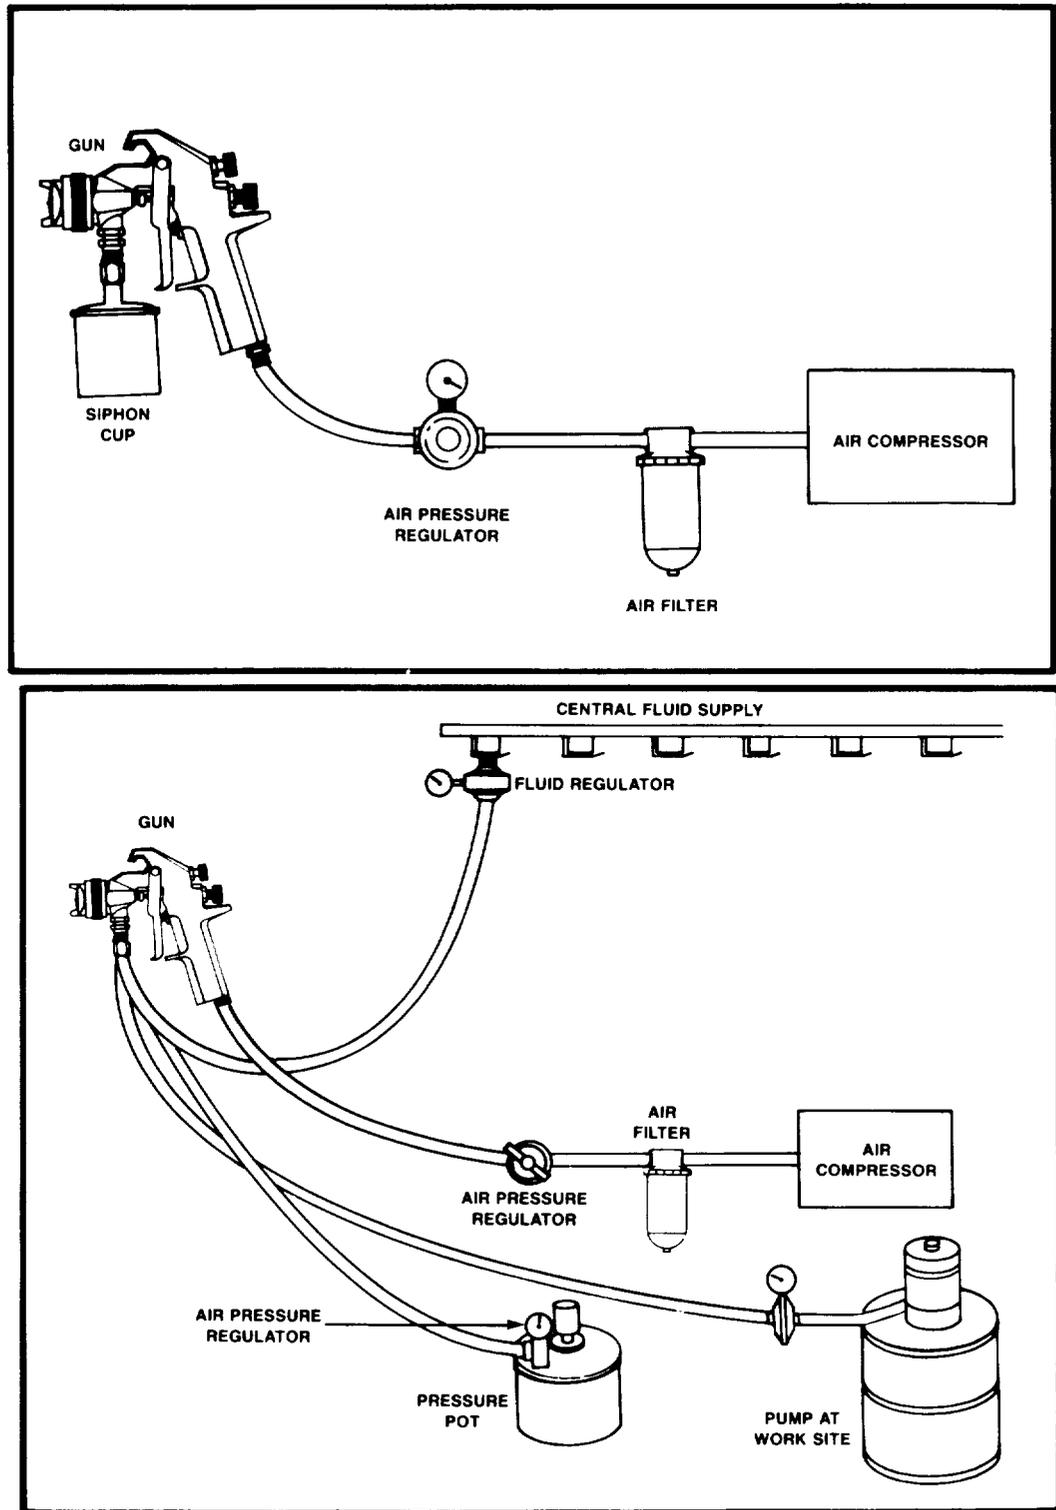
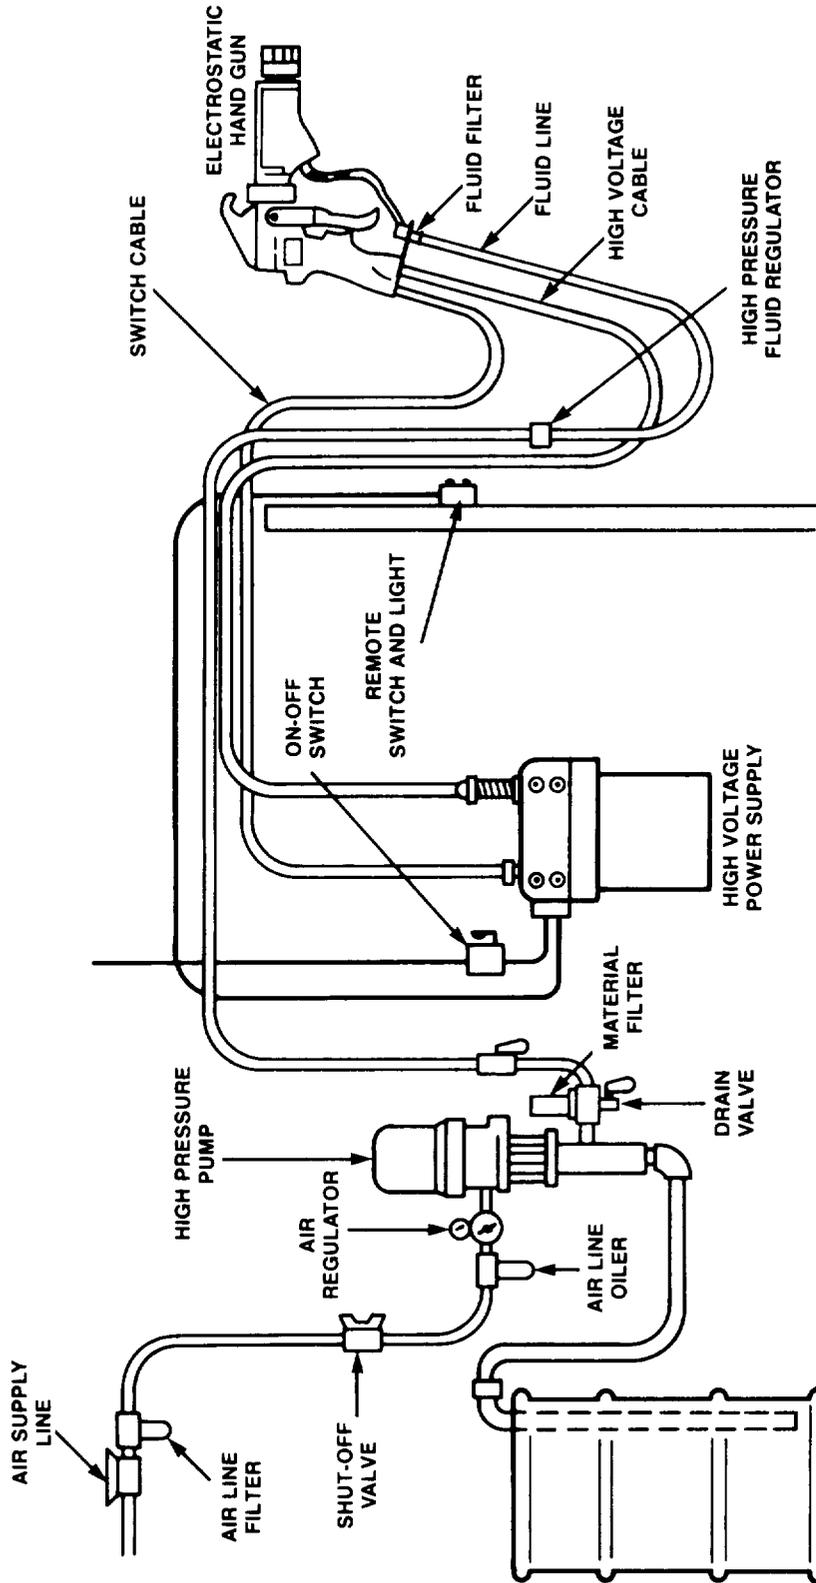
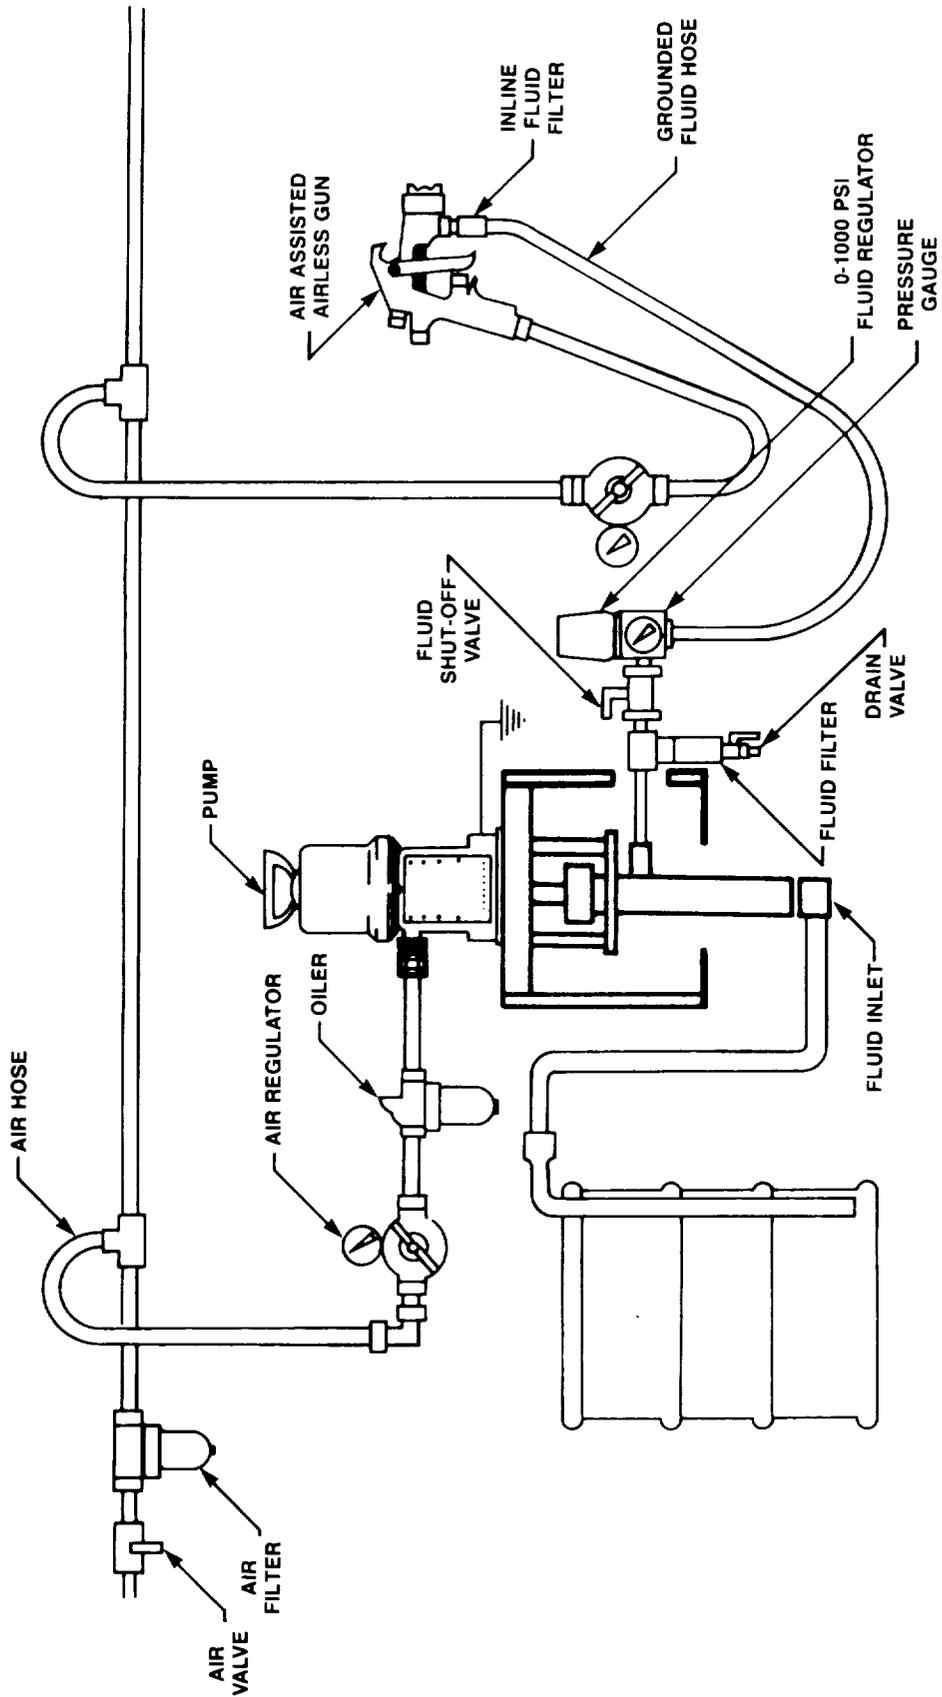

Figure 2-5. Air Spray - Two Systems.
Figure 2-6. Airless Spray/Electrostatic Spray System.
Figure 2-7. Air Assisted Airless Spray System
- (1) Airspray (sometimes called conventional spray) (See figure 2-5.)
- (2) Airless spray/electrostatic spray (See figure 2-6.)
- (3) Air assisted airless spray (See figure 2-7.)
(1) Hand Mixing. The operator measures two components in proper ratio and pours the two materials together into a common container, mixes them and adds a reducing solvent.
(2) Plural Component Meter Mixing. The operator pours contents of two containers into metered supply containers.
(3) The following factors influence choice of application method:
c. Meter Mixing. Meter mixing equipment for air spray - two systems (figure 2-5), airless/electro-static spray (figure 2-6), and air assisted airless spray (figure 2-7) is most costly but the most efficient method that can be used. There is little or no waste of material, and mixing and metering is not left to the operator but is done by this system. The equipment can pump greater distances; is cleaned up quickly, and material can be left in it for extended periods without contamination. The system can be mobile or fixed in place. It can be fed from remote drums in a mix room or from containers at the meter mixing equipment, and must be used when automation methods such as robots are employed because of the viscosity control it has.